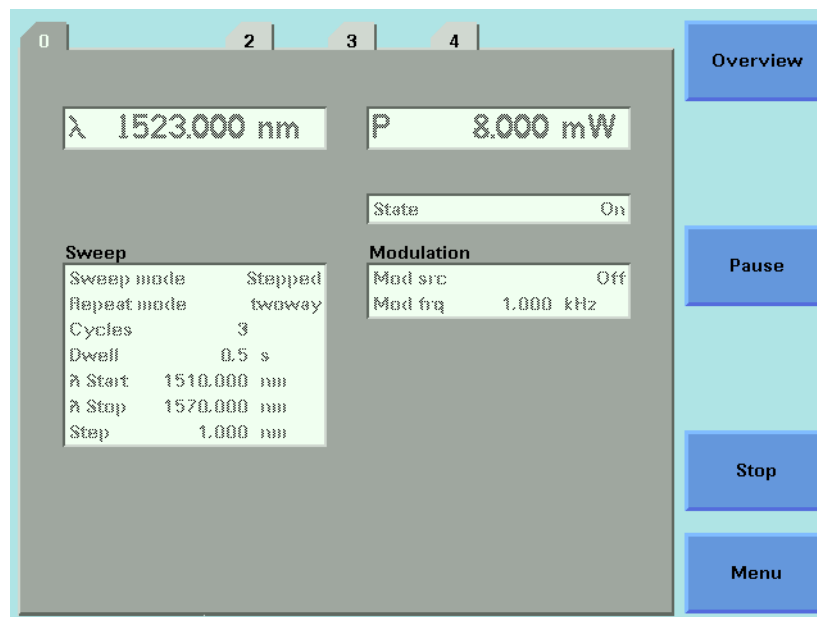

Figure 72 Executing a Stepped Sweep
- 17** Press [Run Swp] to start the sweep. The screen in Figure 72 appears.